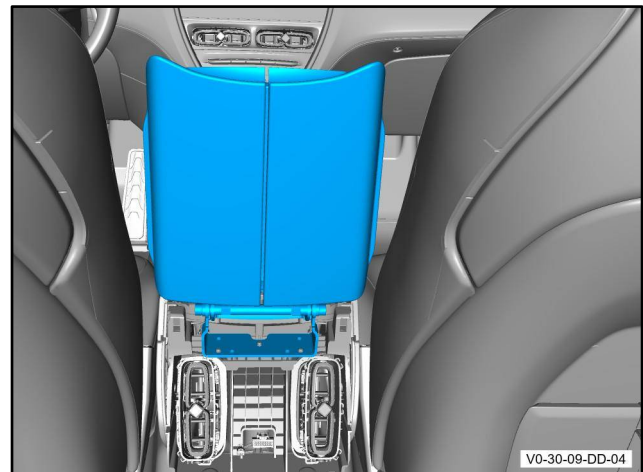

Figure 15
9. Remove the centre console armrest lid (refer to Figure 15).